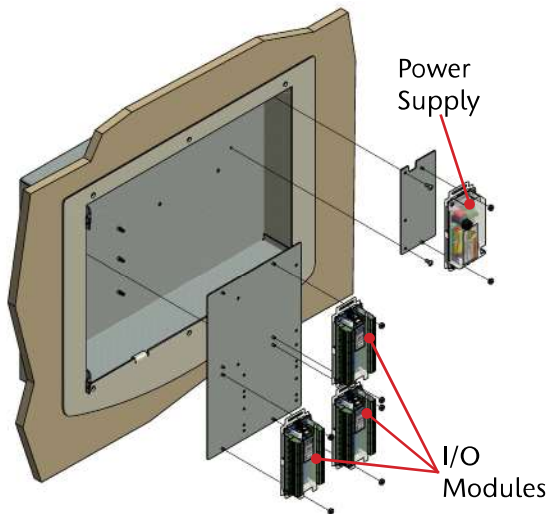

Figure 219: TotalAlert Infinity™ Double Adaptor Bracket Mounting
9. Snap the I/O module adapter bracket (large bracket included with kit 4107220616) onto the standoffs at the rear of the rough-in box (Figure 219).